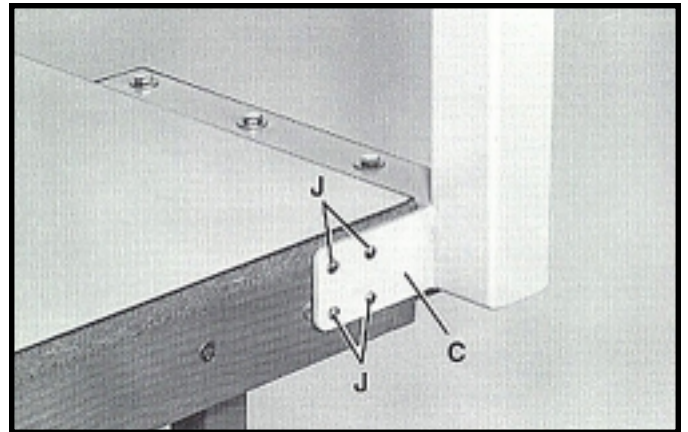

Fig. 8
5. Fasten the metal tab (C) Fig. 8, to the table frame using the four 3/4" long pan head screws (J).